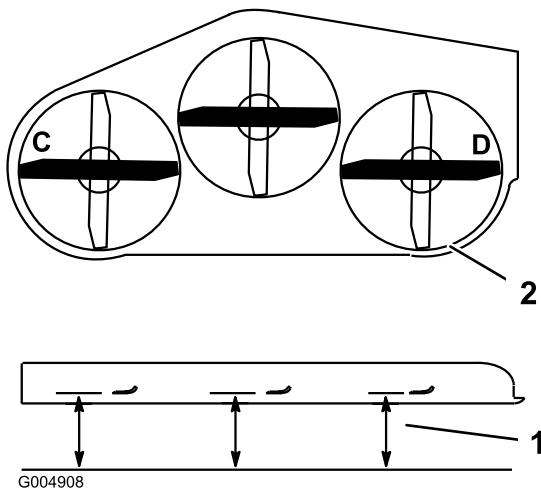

Figure 78
2. Position the blades side-to-side. Measure at **C** and **D** locations from a level surface to the cutting edge of blade tips (Figure 78).